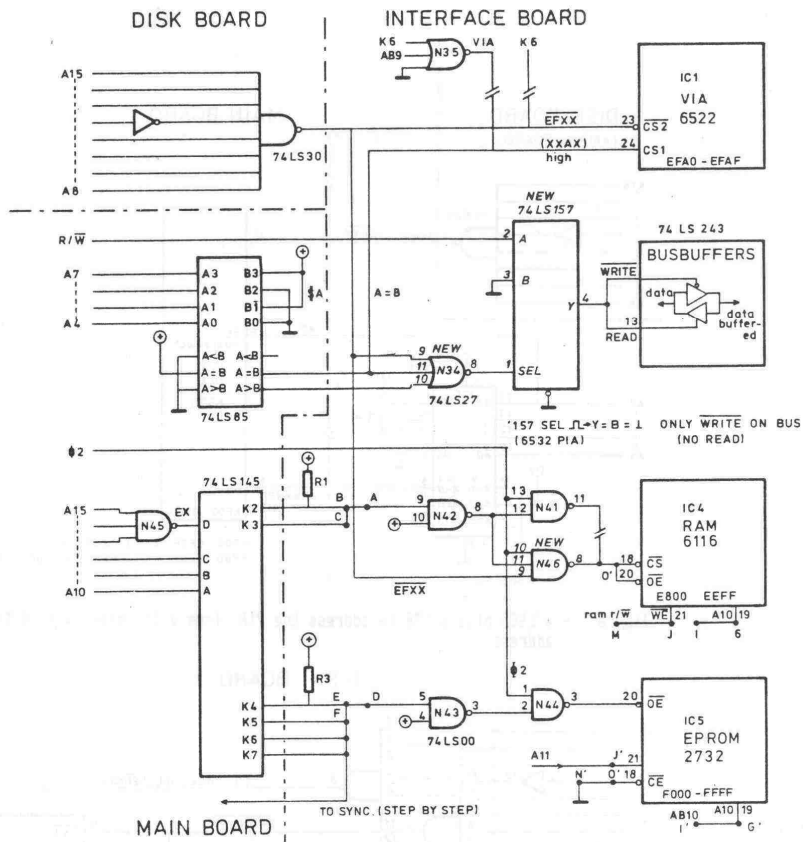

figure.5 - some new gates on the disk board, to re-address the floppy addresses into the I/O page.
C - DISK BOARD - fig.5; (ref.4, fig.9)
Some ICs must be added to this card if the complete address decoding is desired. Six addresses are needed. A 13-input nand gate ('S133) will decode up to 8 addresses, and the so obtained \$EFC0-EFC7 line is directed to CS2 of either the 6850 ACIA and 6821 PIA. Then the ACIA's CS1 is linked with A2 and CS0 with A1, so it lies at \$EFC4-EFC5, where A2 is high and A1 is low. The CS1 of the 6821 links to A2, CS0 with $\oplus$ and RS1 and RS0 with A1 and A0 as before; this chip will be active on \$EFC0,1,2,3. A drawback of this arrangement is that the data buffers of the board (IC13, 'LS245) must be active on the 2+4 addresses. I ought to do that with two new gates, a 3-input-and, plus a 2-input-or, as drew in figure 5. Summing it all, it is a '133, a '240 (six inverters), a '11, a '32 and a '30 if this last gate was not put on the main board.